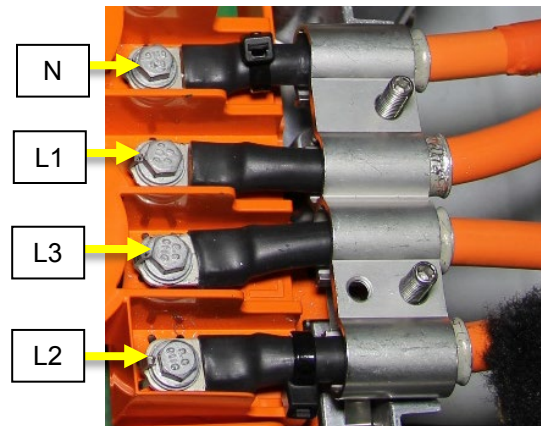

Figure 51
- b. For incorrect HVJB end cable terminal positions: Reposition the cable(s) in the shield brackets to match figure 51, then repeat step 1.